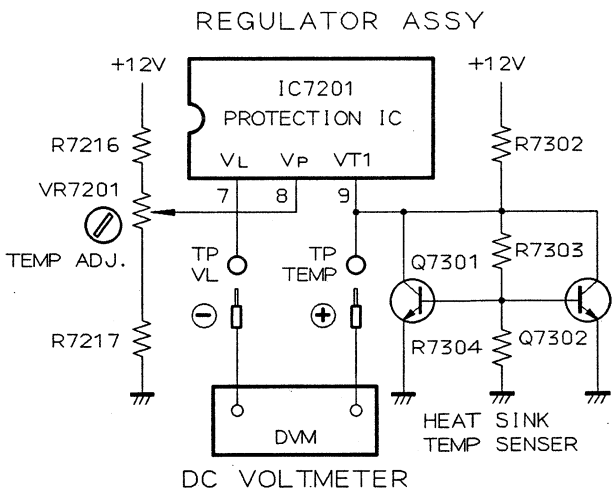

Fig. 6-4 Adjustment of Operating Temperature Setting of Fan Motor
1. Connect a voltmeter between TEMP and VL (or between IC7201 terminals No.9 and 7). (Refer to Fig. 6-4.)